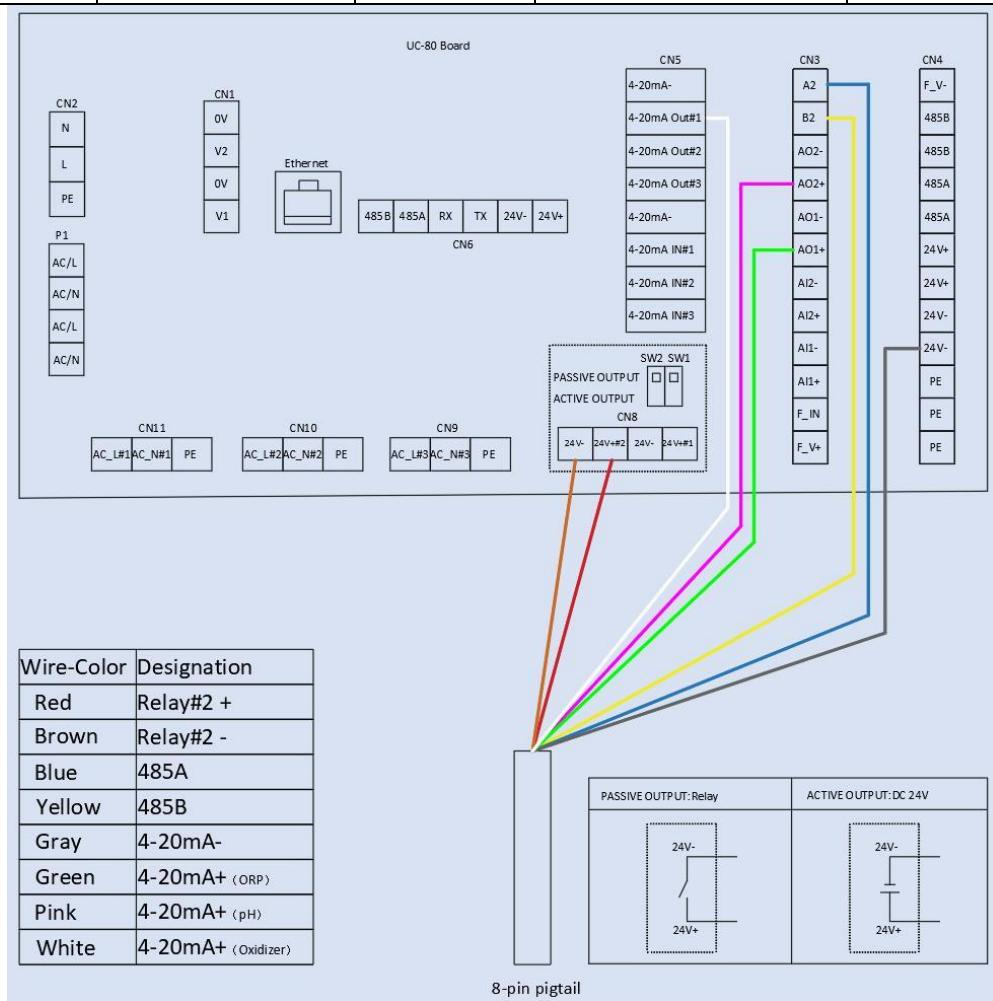

Figure. 6 - Pre-Landed Output Flying Lead Cable Wiring Diagram
The output pigtail offers a female adapter. This pigtail cable is designed to be connected to the loose flying lead cable with male adapter and open wires that is provided with the panel. This 8-pin output enables 3x 4-20mA signal passthrough, 1x RS-485 and 1x Relay (Default is Active Output 24Watt, can be changed to Passive Output) output to pass onto another device. The loose flying lead cable can be rapidly connected directly to the equipment in the field. Wire labeling and color code can be found in the table in the lower left corner of Figure 6 seen below, or rewired to the equipment according to the wiring diagram shown in Figure 4 based on the serial # range provided below of heritage units that DO NOT contain the analog PID control relay.
When Flow Control Mode (C) is selected, a user defined flow rate setpoint must be entered (Figures 6 & 7). The FS-100 will automatically control the regulating valve according to the preset flow rate with an internally calculated PID algorithm.